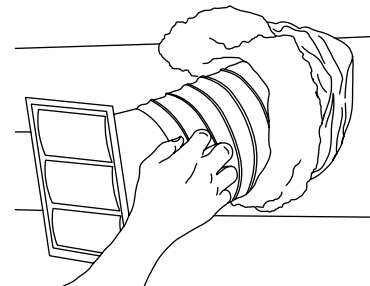

Fig. 9 — Install Duct and Sleeve
3. Pull the insulated flexible duct through the opening until it is well extended and straight. Slide the duct inner vinyl sleeve over the hood collar and secure. See Fig. 9.
4. Pull the insulation over the duct and then the vapor barrier over the sleeve and secure with duct tape. See Fig. 9.